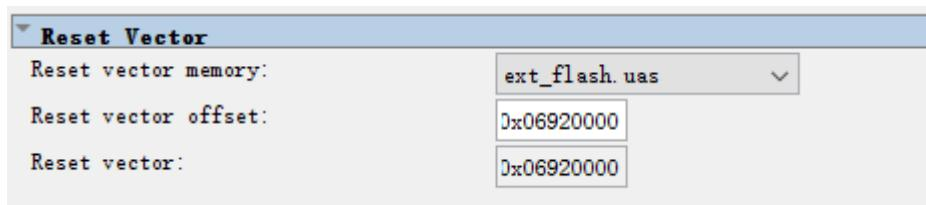

Figure 4-6 Reset Vector Settings for NIOS II Processor
2. In NIOS II processor options, select FLASH as reset vector memory and specify 0x06920000 as reset vector, as shown in **Figure 4-6**.